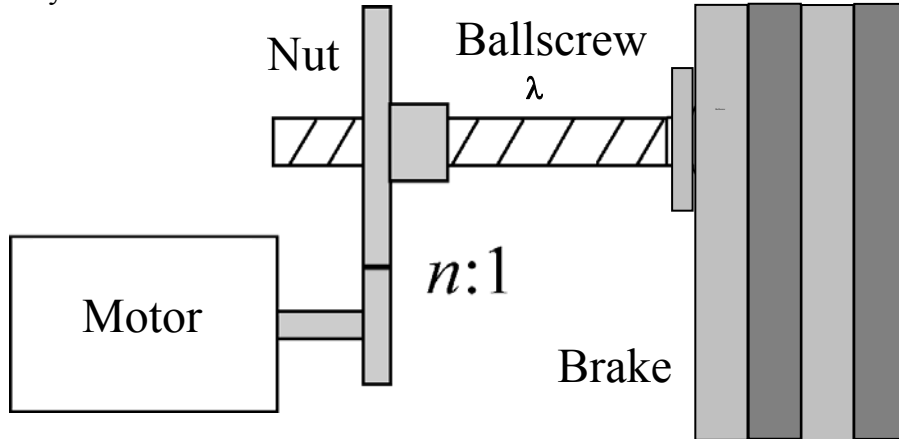

Figure 2.1 Schematic of electromechanical actuator.
2. An electromechanical actuator consisting of a brushless dc motor, a nut and a ballscrew, figure 2.1, is driving the carbon brakes of an aircraft. The brushless dc motor has a torque constant  $k = 0.51 \text{ Nm/A}$  and an equivalent winding resistance  $R = 8 \Omega$ . Furthermore, the screw pitch length of the electromechanical actuator is  $\lambda = 5.5 \text{ mm}$ , and the gear ratio between the nut and the shaft of the brushless motor is 35:1. (i.e. the motor rotates 35 times for 1 revolution of the nut). You may assume that the mechanical transmission of the actuator is loss-less.